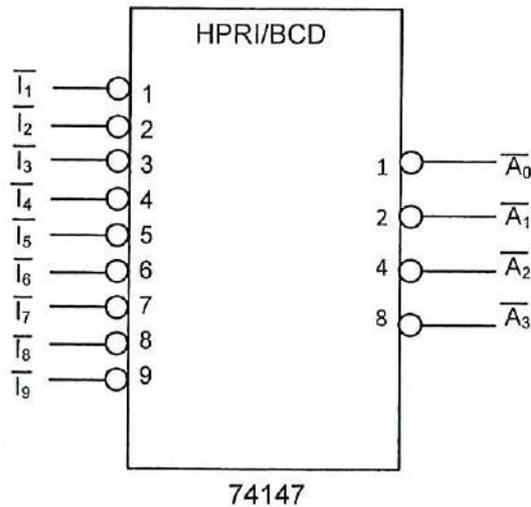

Figure Q3(b)(i) / Rajah Q3(b)(i)
- (b) Refer Figure Q3(b)(i), draw the output waveforms of 74147 encoder based on input waveform of  $I_3, I_4$  and  $I_5$  in Figure Q3(b)(ii) in attachment sheet. Assumed that other input